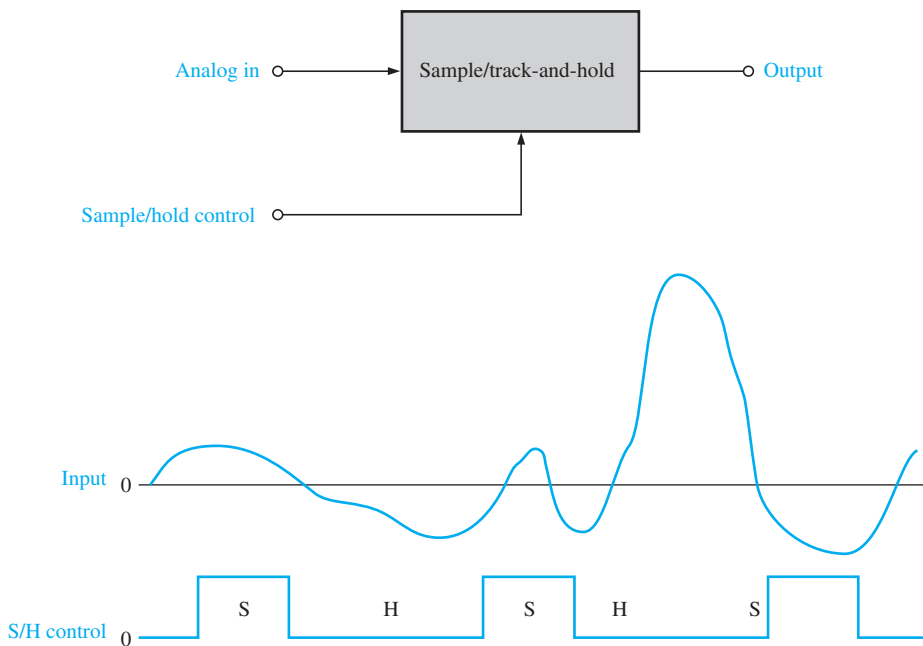

FIGURE 14-61
3. Determine the output voltage waveform for the sample/track-and-hold amplifier in Figure 14-61 given the analog input and the control voltage waveforms shown. Sample is the high control level.